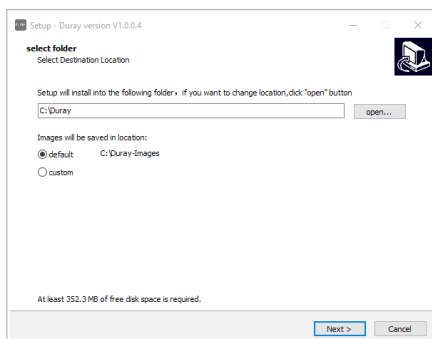

Figure 5
c) After the installation program is started, click the "Browse" button to select the installation path. After the path is selected, click the "Next" button, as shown in Figure 5: